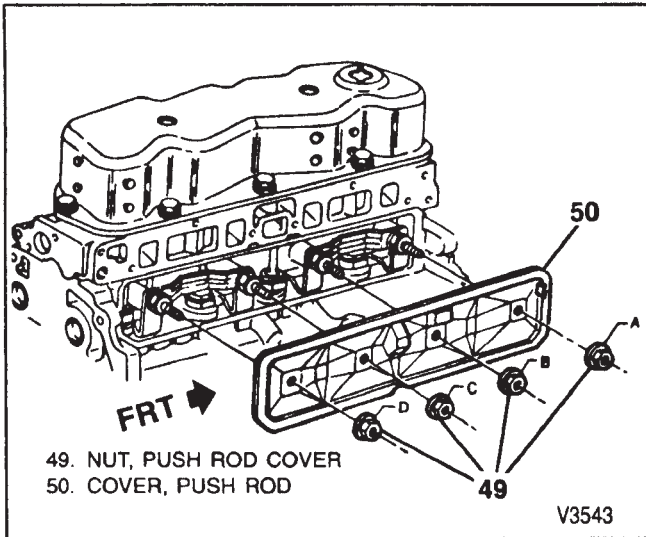

Figure 8—Pushrod Cover and Components
↔ Remove or Disconnect (Figure 8)
**Install or Connect (Figures 8 and 9)**
- Pushrod cover nuts using the sequence shown in figure 8 (A through D), to 12 N·m (106 in. lbs.).